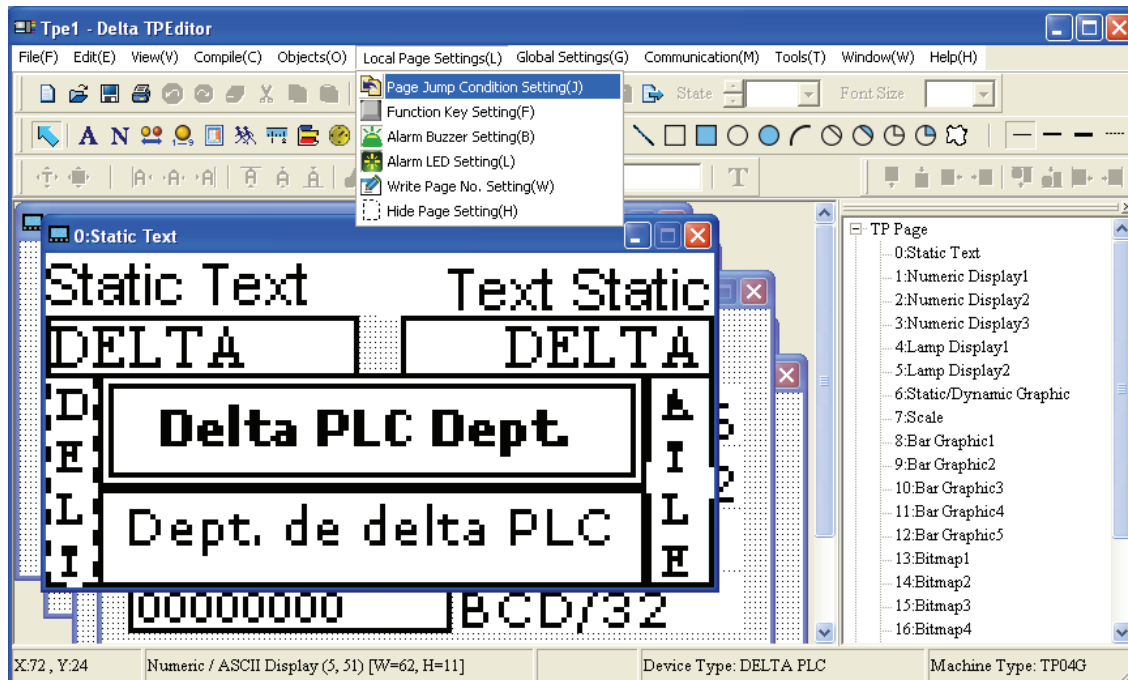
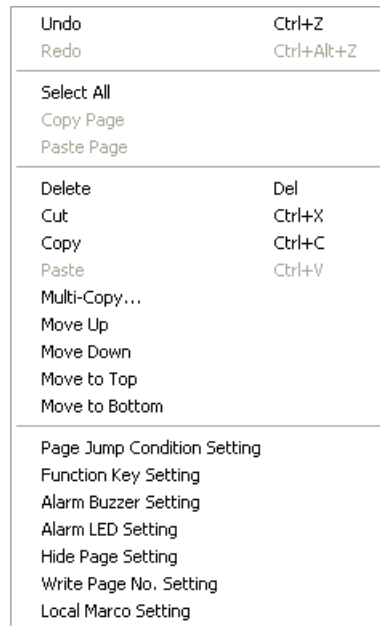

Figure 1-118
Figure 1-119
Step 1. Choose **Local Page Settings(L) > Page Jump Condition Setting(J)** command from the menu bar (Figure 1-118) or right-click the mouse on the edited screen to select the **Page Jump Condition Setting** command from the pop-up menu (Figure 1-119).